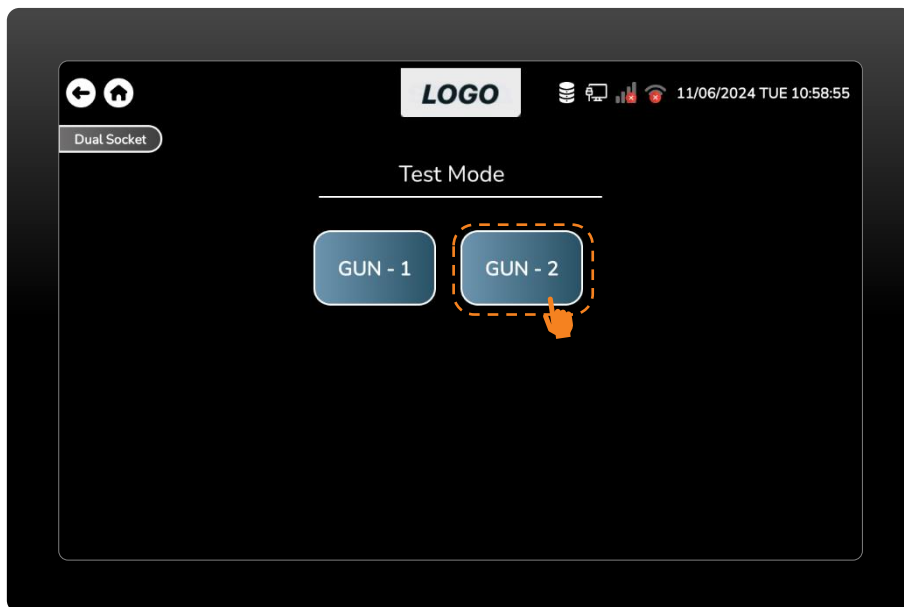

Figure 28 Press the GUN-2 Option.
- Press the GUN-2 option from the test mode screen. (Figure 28)